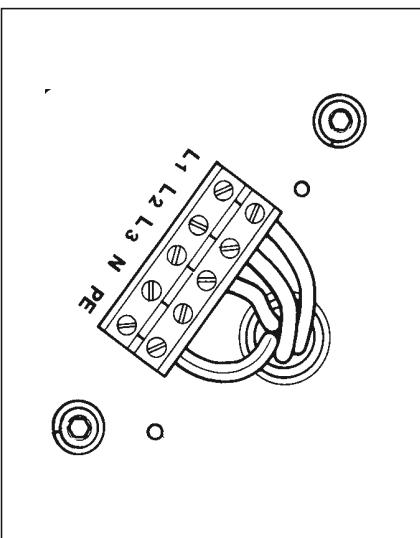

Fig.4
- Connect the three phases to the terminals marked L1, L2, L3 (fig.4).